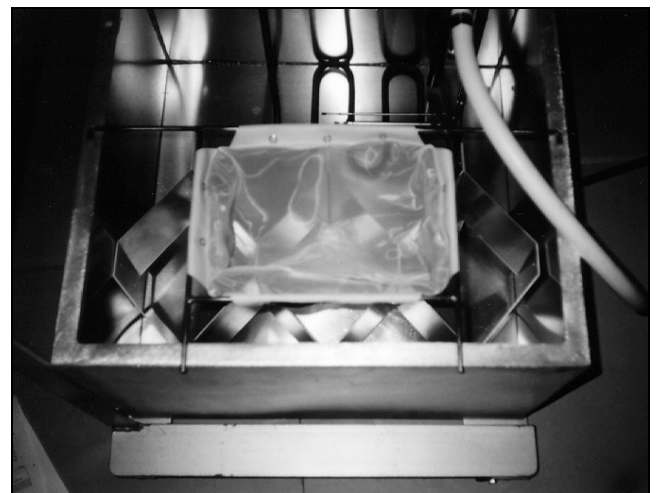

Figure 1-12. Positioning the Filter Assembly for Filtering.
4. Position the shortening filter assembly on the EZ Melt kettle. The edge of the kettle has one or two sets of holes in it. Use the set of holes that is farther from the heater head. When two of the filter frame's pins rest in these holes, the filter assembly rests horizontally on the end of the kettle. (See Figure 1-12.)